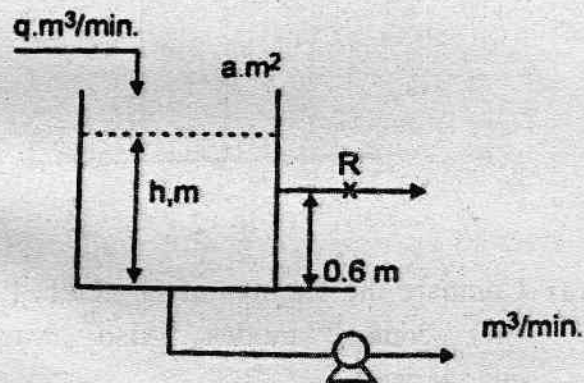

Fig. 1
- (b) Derive the transfer function $H(s)/Q(s)$ for the liquid level system as shown in Fig. 1. 8